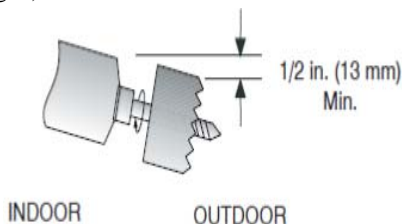

Fig. 8 — Drill holes
2. Drill the pipe hole. The outside pipe hole is 1/2-in. (13 mm) lower than the inside pipe hole, so it slants slightly downward (see Fig. 8).